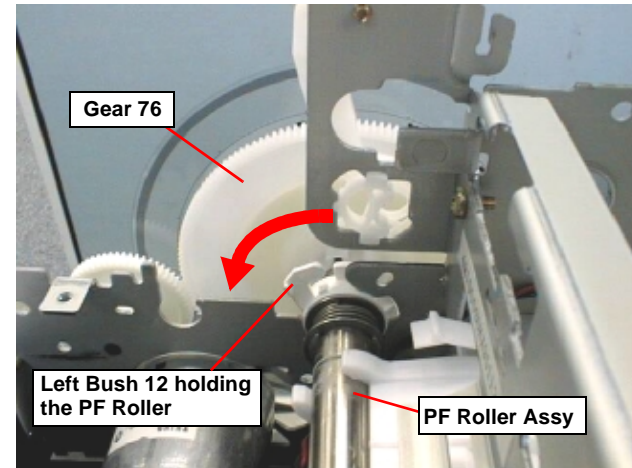

Figure 4-55. Setting the protrusion on Bushing 12
- 16) Release the fixed hook of the Left Bushing 12 holding the PF Roller Assembly and rotate it forward so that the protrusion on the Bushing 12 is aligned to the hole of the Left Frame. Refer to Figure 4-55.
- Do not touch teeth of the Gear 76 on the left edge of PF Roller. This parts is High Accuracy Gear. Refer to Figure 4-55.